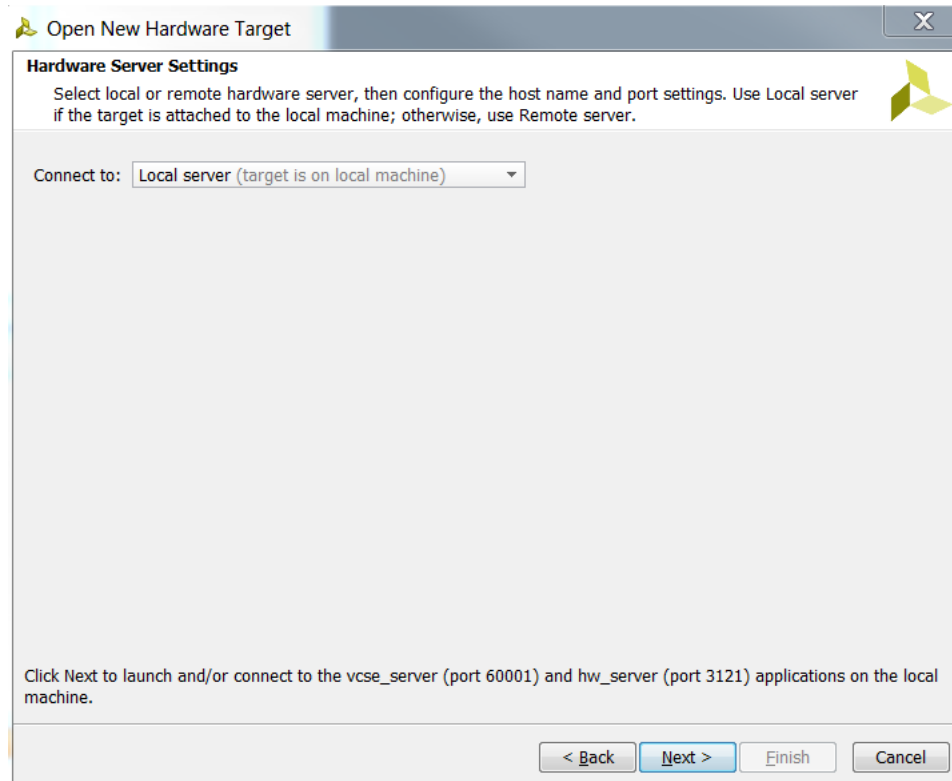

Figure A-5: Open New Hardware Target
6. On the **Connect to** line, select **Local server** in the drop-down menu and click **Next** (see Figure A-5).